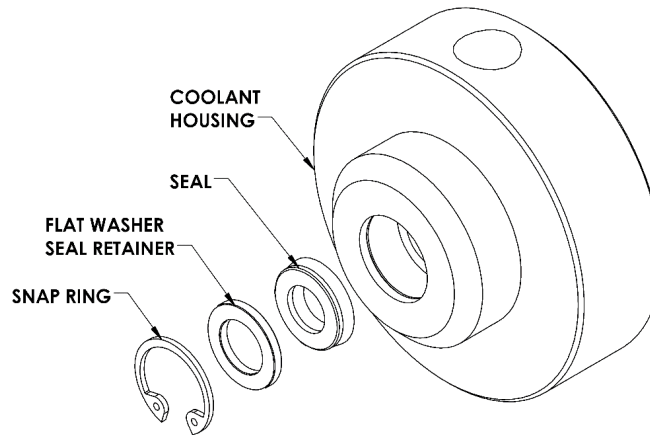

Figure 35 Coolant Housing Assembly Component
3. **Using** a set of internal snap ring pliers, **remove** snap ring. (See **Figure 35** on previous page.) **Use** a small flat-head screwdriver to **lift out** the flat washer seal retainer from housing bore. **Remove** the seal in the same fashion.